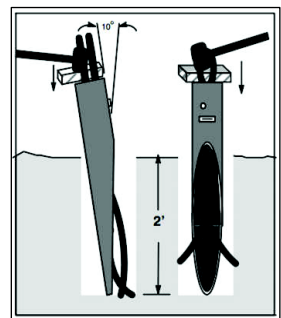

Figure 3 Integral Stake Base
6. **INTEGRAL STAKE BASE (I-stake and XL I-stake):** Position the base inside the line of the cable with the open section facing out. If additional depth is required, push the cable toward the front of the base and place a board across the top of the base behind the cable. With a hammer or mallet, drive the base further into the ground until the ground line marker is at final grade level. This level ensures easy placement and/or removal of the pedestal dome, and allows proper ventilation (Figure 3).